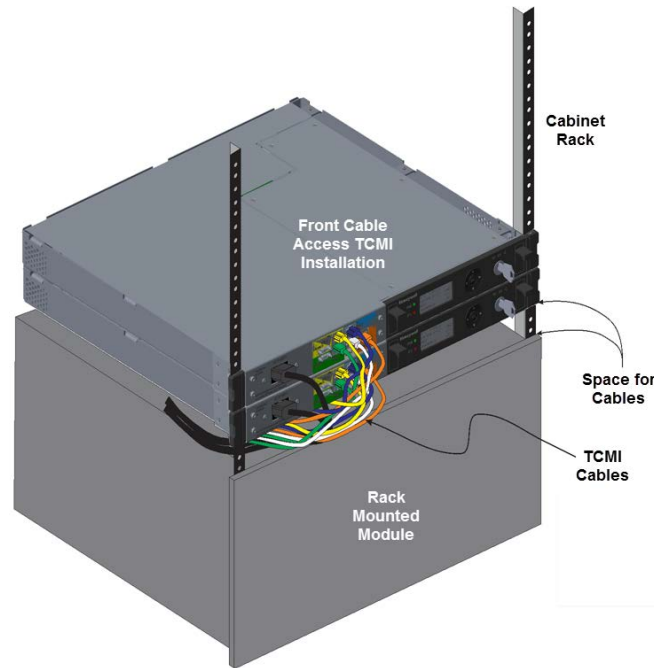

Figure 3 – Redundant TCMI (front only access) mounting
2. TCMI for Front Only Cabinet Access as shown on Figure 3. This form factor is suitable for front mounting inside a Triconex cabinet.